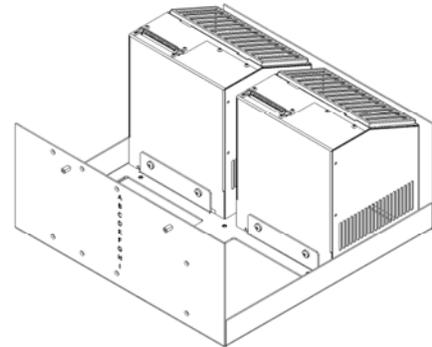

Figure 8. First Two LED Arrays Mounted in Cradle
6. Place the Cradle Assembly into the Conveyor. The Hand Knobs will slide into the four slots on the top of the Conveyor. The Hand Knobs and Washers should be on the outside of the Conveyor, as shown in Figure 8.
7. The Switchbox (41986) may be used in place of the LED Flood Array Foot Switch. This provides continuous operation of the LED. The Switchbox comes with four 9.8 ft [3 M] long cords (41277) so that it may be located anywhere that is appropriate for the application. Four M4 x 10 screws (38609) and mounting holes are provided, as shown in Figure 8, if mounting is desired. One end of the cords are plugged into the Switchbox and the other is connected to the Foot Switch Jacks on the rear of the LED Flood Power Supply.